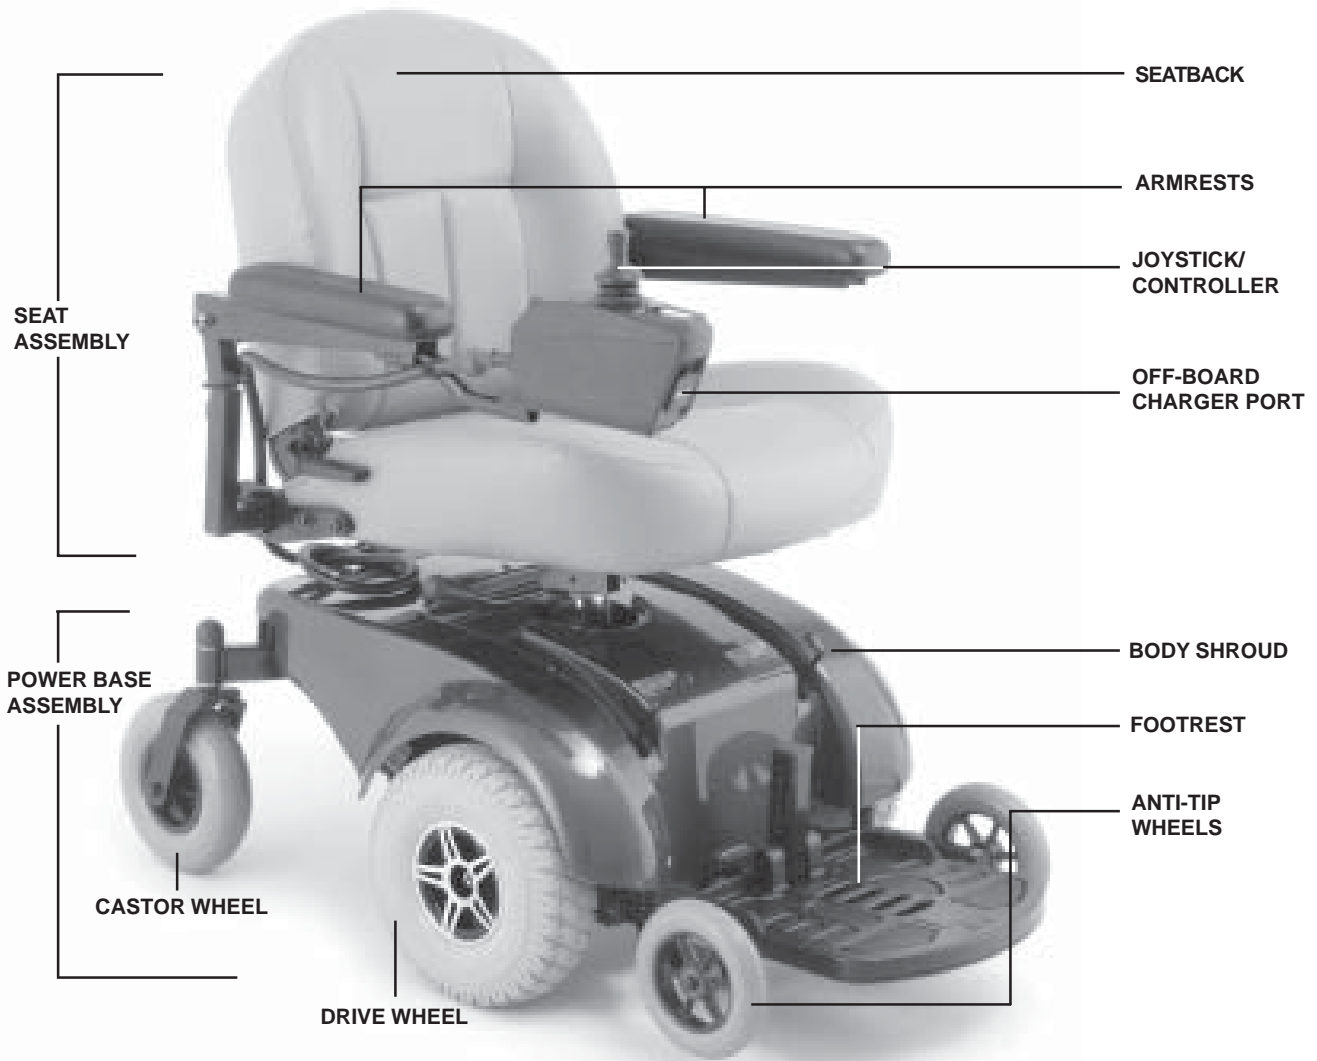

Figure 1. Jet 3
Your power chair has two main assemblies: the seat and the power base. There are a wide range of seating options for the power chair, as well as custom configurations. Commonly, the seating system consist of a seatback, armrests, joystick/controller, and footrest. See figures 1 and 2. Your power chair may have other specialty features to further enhance your mobility. If your power chair is equipped with other specialty features, refer to the information supplied with those products.
The electrical system is powered by two long-lasting, 12-volt, deep-cycle batteries. These batteries are connected in series to provide 24 volts of direct current (DC). The main electrical components consist of the batteries, a battery charging system, the main circuit breaker, the motor/brake assembly, and the controller (see figures 1, 2, and 4).